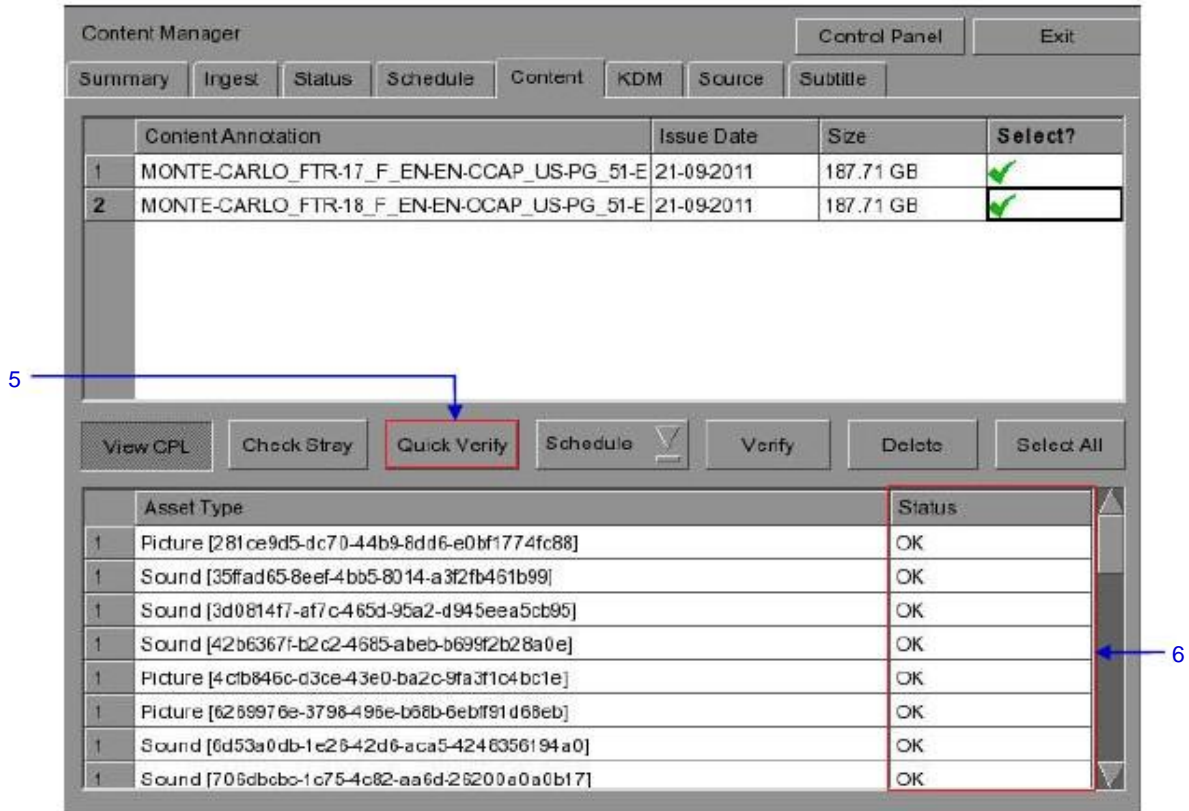

Figure 33 Package [Quick Verify]
- 6 You will see **OK** under the **Status** column after verifying that no problems are detected. If errors are found, the description of the error will be shown instead as seen in **Figure 33** above.